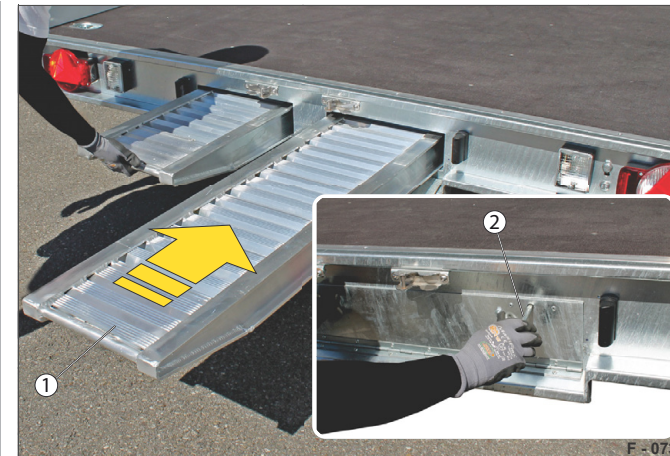

Fig. 76 Example: HT drive-up ramps secured
- Insert the drive-up ramps (Fig. 76 /1) into the ramp slot.
- Lock the ramp slot cover (Fig. 76 /2) with a square key.